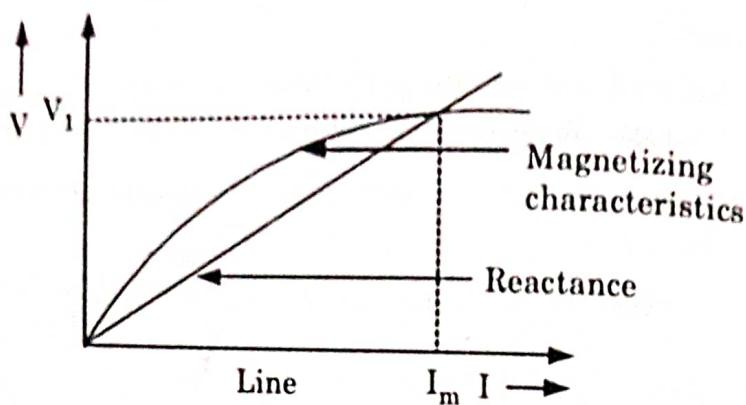

Fig. 3.25.3.
11. The magnetization characteristics is shown in the Fig. 3.25.3.